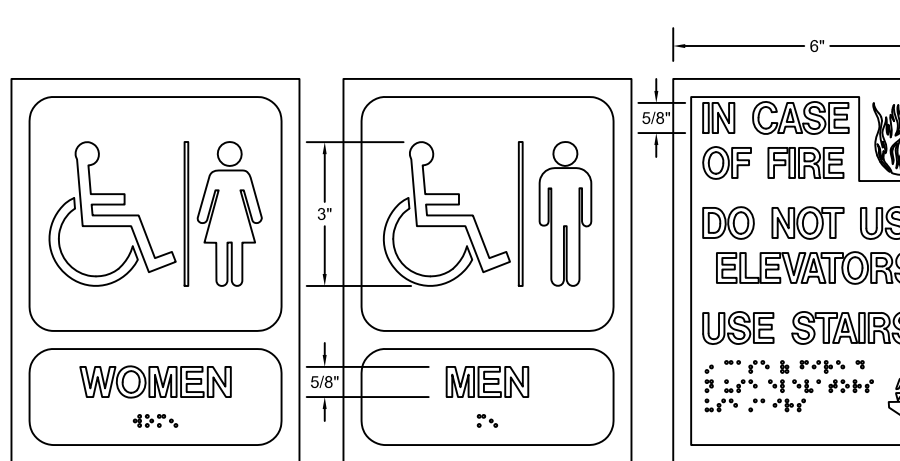

FIG. 43
(1) LETTERS AND NUMERALS SHALL BE RAISED 1/32 INCH, UPPER CASE, SANS SERIF OR SIMPLE SERIF TYPE AND SHALL BE ACCOMPANIED WITH GRADE 2 BRAILLE. RAISED CHARACTERS SHALL BE AT LEAST 1/8 INCHES FLAT, BUT NO HIGHER THAN 3 INCHES. PICTOGRAMS SHALL BE ACCOMPANIED WITH THE EQUIVALENT VERBAL DESCRIPTION PLACED DIRECTLY BELOW THE PICTOGRAM. THE BORDER DIMENSION OF THE PICTOGRAM SHALL BE 6 INCHES MINIMUM IN HEIGHT (SEE FIG. 43).